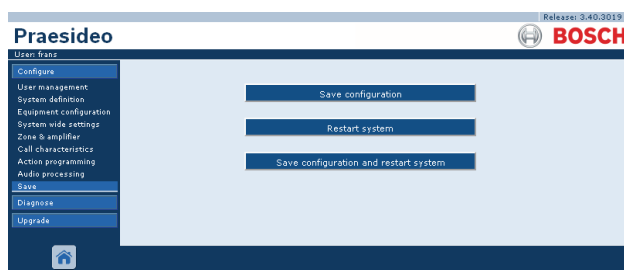

figure 41.5: Save window
- When there are no issues found, and the configuration is done on-line, three buttons are displayed to enable the user to *Save the configuration*, *Restart the system* or *Save the configuration and restart the system*. See figure 41.5. When the configuration file is saved to the network controller, the configuration is not activated until the network controller is restarted. If the new configuration must be saved and activated, click the *Save the configuration and restart the system* button.